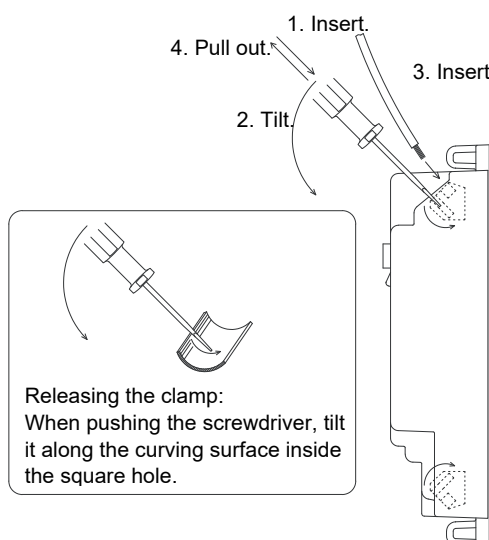

Figure 9. Connecting a wire to a quick-fit screwless terminal.
2. Tilt the screwdriver while pushing it into the hole. (Make sure the direction to tilt, as shown in Fig. 9.) When the screwdriver is proceeded to the deep end, the clamp is completely released.
Quick-fit screwless terminals are provided for ON/OFF output, control valve output, status input, and trip alarm input. Follow the procedure below for connecting these wires. (Refer to Fig. 9.)